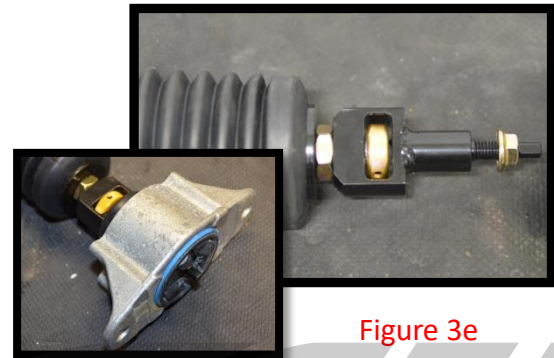

Figure 3e
- f) Swap the aluminum shock mount over to the CorkSport Adjustable Shock and fasten with the 12mm nut to 18ft lbs. (Figure 3e).
- f) Swap the aluminum shock mount over to the CorkSport Adjustable Shock and fasten with the 12mm nut torqued to 18ft-lbs. (Figure 3e).